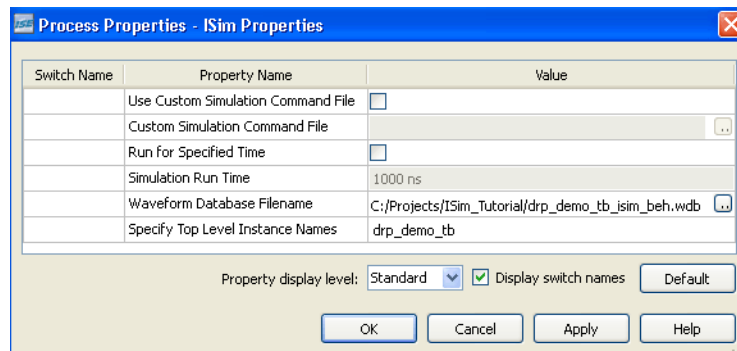

Figure 2-17: ISim Properties Window
2. Right-click on Simulate Behavioral Model under the ISim Simulator process and click on **Properties**. The ISim Properties window comes up (Refer to Figure 2-17).
3. For the purposes of this tutorial, we will disable the feature that runs the simulation for a specified amount of time right from the start of the simulation. Uncheck the property Run for Specified Time, and click OK (Refer to Figure 2-17.)